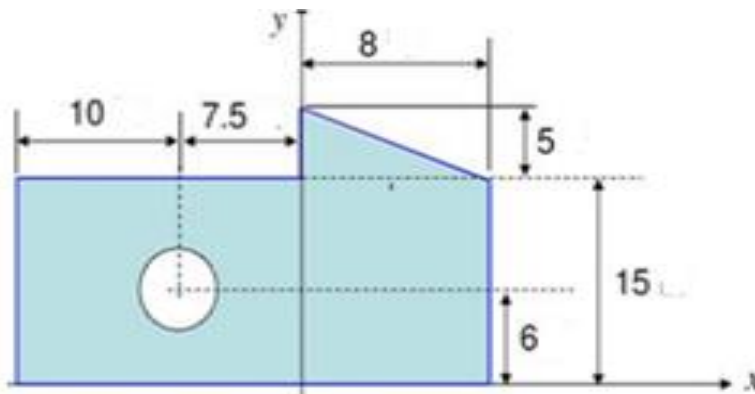

**Fig. 3**
- 5 Determine the forces in each member of the cantilever truss loaded as shown in **Fig. 3**. 10 M